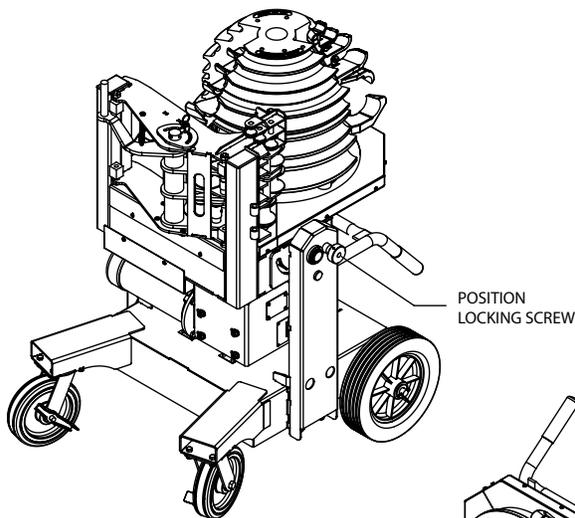

Figure 10a
1. If the bender power unit is in the horizontal position (see Figure 10a), unscrew the position locking screw until it clears the bender power unit.
2. Rotate the bender power unit to the horizontal position and secure with the position locking screw (See Figure 10a).
1. Rotate the bender power unit to the horizontal position and secure with the position locking screw (See Figure 10a).
1. Rotate the bender to the horizontal position and secure with the position locking screw (see Figure 10a on page 10).
2. Remove Bottom Chain Shield (See item 41 on page 35).